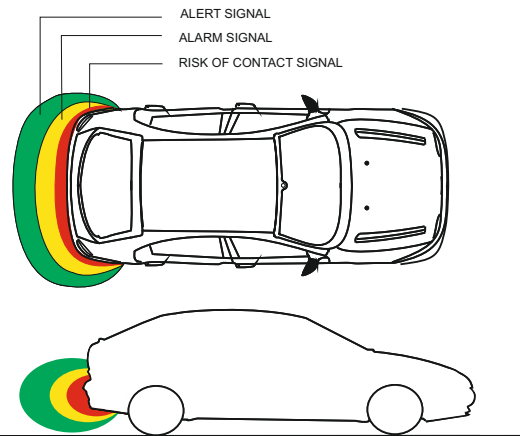

Fig. 6
c) Insert all plug-in connectors into the proper position on the Central Unit (ECU) as per Fig. 6.
The activation of the device is obtained by the insertion of the back gear and confirmed by the lighting of the 3 red points on the display. Once activated, the system generates around the bumper, on which is installed, a protection zone (Fig. 6).
- The distances will vary depending on the size of the obstacle and correspond to the central zone of the bumper; on the lateral edges the distances are shorter (see Figure 6).